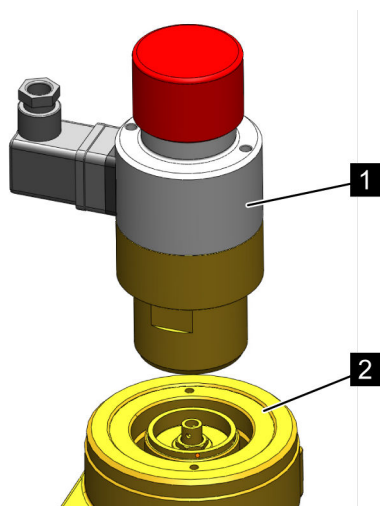

Fig. 17: Unscrewing the release device
2. ► Unscrew the electric release device (Fig. 17/1) fitted on the “pilot cylinder” extinguishing agent container from the valve (Fig. 17/2).